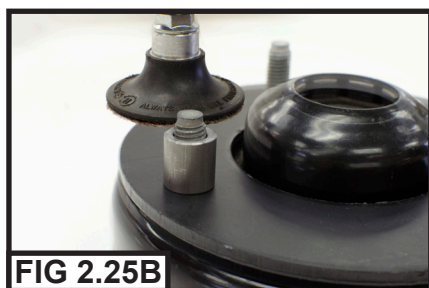

FIG 2.25B
- 12-C. Trim the stud flush with the top of the **Height Trim Gauge Tube**. (*Remove the Height Trim Gauge Tube before continuing.*) (FIG 2.25B)